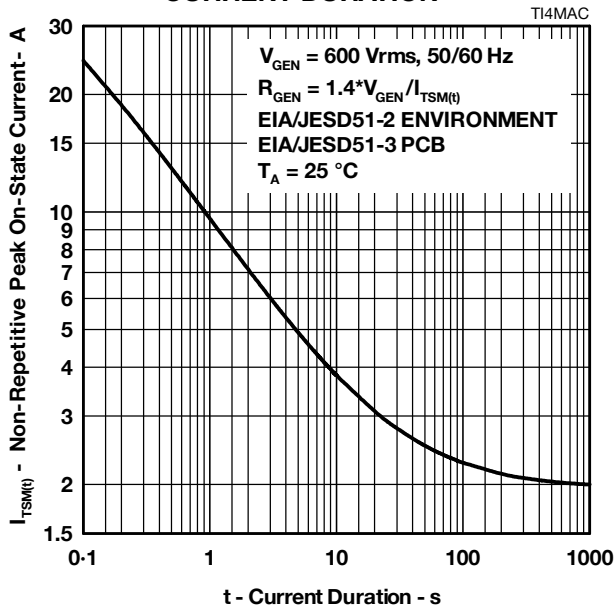

Figure 9.
5. EIA/JESD51-2 environment and EIA/JESD51-3 PCB with standard footprint dimensions connected with 5 A rated printed wiring track widths. See Figure 9 for the current ratings at other durations. Derate current values at -0.61 %/ $^\circ\text{C}$  for ambient temperatures above  $25^\circ\text{C}$ .
The protector can withstand currents applied for times not exceeding those shown in Figure 9. Currents that exceed these times must be terminated or reduced to avoid protector failure. Fuses, PTC (Positive Temperature Coefficient) thermistors and fusible resistors are overcurrent protection devices which can be used to reduce the current flow. Protective fuses may range from a few hundred milliamperes to one ampere. In some cases, it may be necessary to add some extra series resistance to prevent the fuse opening during impulse testing. The current versus time characteristic of the overcurrent protector must be below the line shown in Figure 9. In some cases, there may be a further time limit imposed by the test standard (e.g. UL 1459 wiring simulator failure).